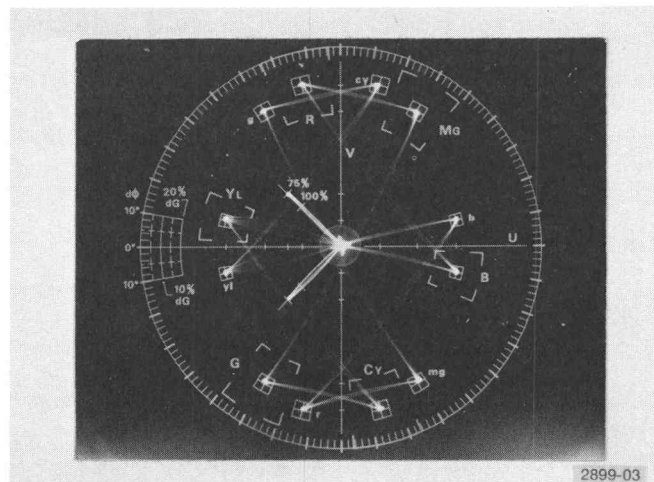
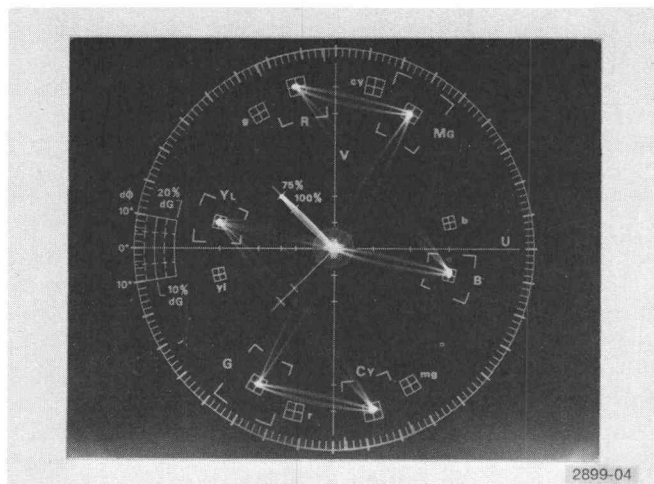

Fig. 2-3. 1421, 1422 PAL color bar vector display.
Fig. 2-4. 1421, 1422 PAL color bar NTSC vector display.
The other function this switch provides is either a PAL VECTOR or NTSC VECTOR display. The PAL VECTOR position displays a normal PAL signal with alternating burst and chrominance phase (see Fig. 2-3). The NTSC VECTOR position enables the 180° phase switcher. This allows the overlaying of the -V phase on the +V phase display (see Fig. 2-4).
c. Rotate PHASE to place the burst vectors on their graticule marks (see Fig. 2-3).
d. Set the Vectorscope  $\phi$  REF switch to B VECTOR NTSC. The 180° switcher in the demodulator is now running, causing the -V burst and the chrominance vectors associated with it to be switched in phase and overlaid with the +V burst and chrominance. See Fig. 2-4. This feature is particularly useful in studio source phasing, where all input signals to the studio switcher can be displayed in turn, and phase errors removed by adjusting source phasing for overlay of the Vectorscope display. Source phasing, using this feature, also assumes accurate burst quadrature.